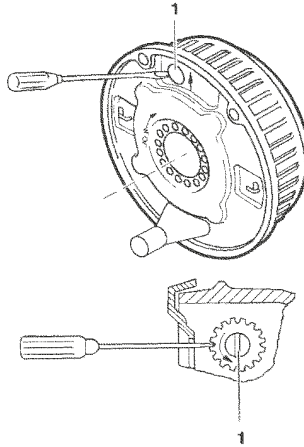

Fig. 11
5. **ALWAYS** rotating the road wheel in the forward direction - **NEVER** backwards; adjust the starwheel with a suitable screwdriver, in the direction of the arrow embossed on the backplate until there is resistance in the wheel rotation. (Fig. 11).
6. Slacken off the starwheel adjuster until the road wheel turns freely in the **FORWARD** direction. (Fig. 11).